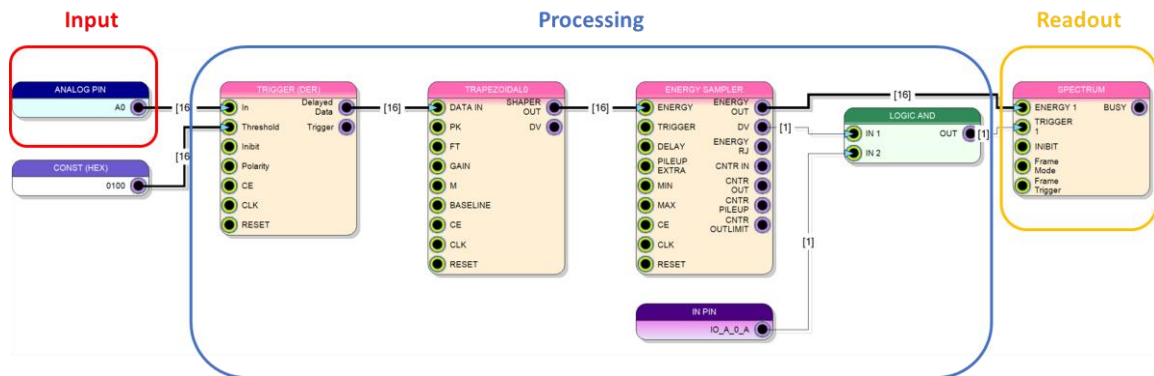

Figure 5.1: the typical structure of a Sci-Compiler project for Digital Pulse Processing.
- **Processing**, i.e., blocks interconnecting each other and making the Realtime Signal Processing. For instance, in **Figure 5.1**, the signal from the input feeds a *Derivative Trigger*, which in turn activates a *Trapezoidal Filter*. The flat top of the trapezoid is sampled by the *Energy Sampler* block and energy of the incoming signal is then measured.
- **Readout**, i.e., blocks to read the results of the Processing and transfer them to the PC as data. For instance, in **Figure 5.1**, a *Spectrum* block is used to read data coming from the *Energy Sampler*. Data are read by the *Spectrum* block when the *Energy Sampler* and an external digital signal on pin IO_A_0_A of the board are in coincidence (*Logic AND*).